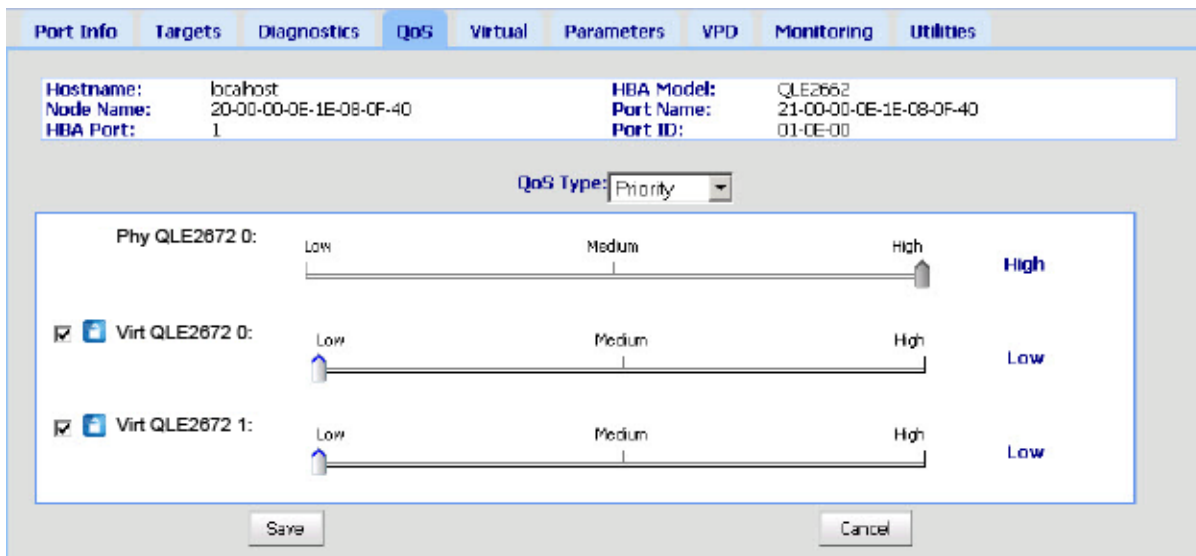

Figure 4-5. Setting the QoS by Priority
5. For each virtual port, move the slider to select a low, medium, or high priority, as shown in Figure 4-5.